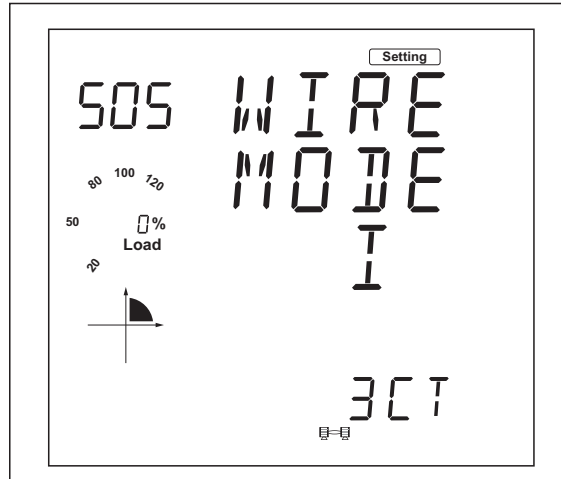

Figure 9: S05: Current wiring mode screen
5. Press **P** to get to screen S05: Current Wiring Mode (WIRE MODE I) (Figure 9 on page 9).